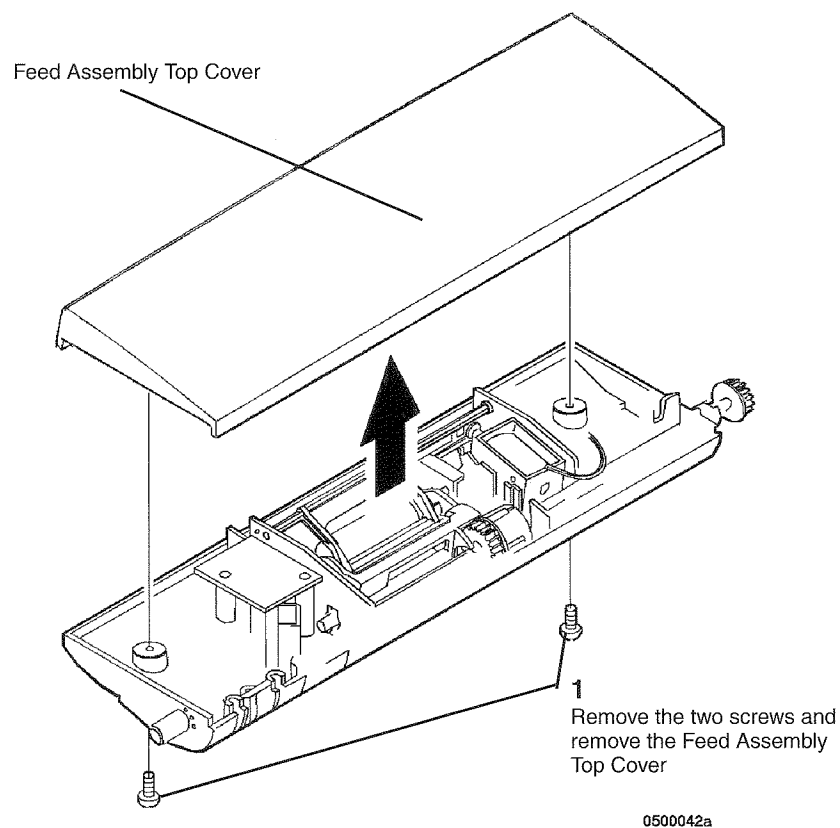

Figure 1 Removing the Top Cover
2. ( Figure 1): Remove the Feed Assembly Top Cover.